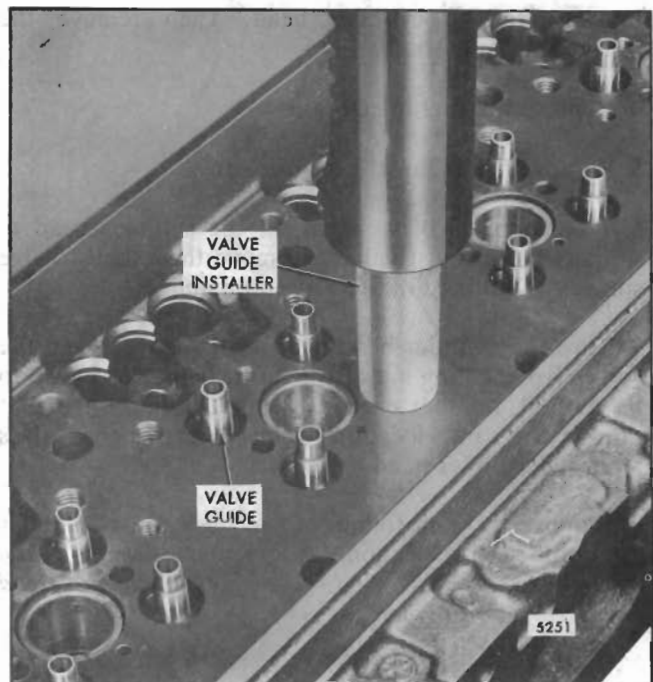

Fig. 7 - Installing Valve Guide
Place the cylinder head right side up on an arbor press and install the valve guide (Fig. 7) as follows:
2. Position the valve guide squarely in the bore in the cylinder head and press the installing tool J 21520 gently to start the guide in place (Fig. 7). Then press the guide in until the tool contacts the cylinder head. The tool installs the guide to .670 "-.710 " above the top of the cylinder head.